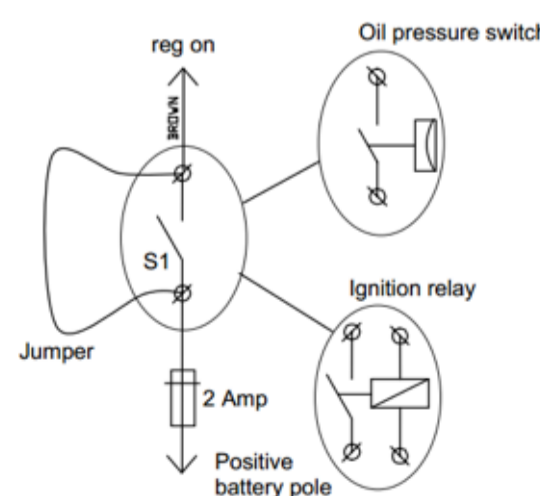

Figure 4: S1 switch connections
- Refer to Figure 4: the green wire ('Reg+' / 'ON') must be connected to the engine ignition relay or, preferably, an ungrounded oil pressure switch.
3. Energize the 'ON' terminal by either turning on the ignition switch (DO NOT START the engine) or by putting a jumper across switch S1 (also see Figure 4). Check whether the three LEDs start to blink. After some 10 seconds the yellow bulk LED will illuminate.